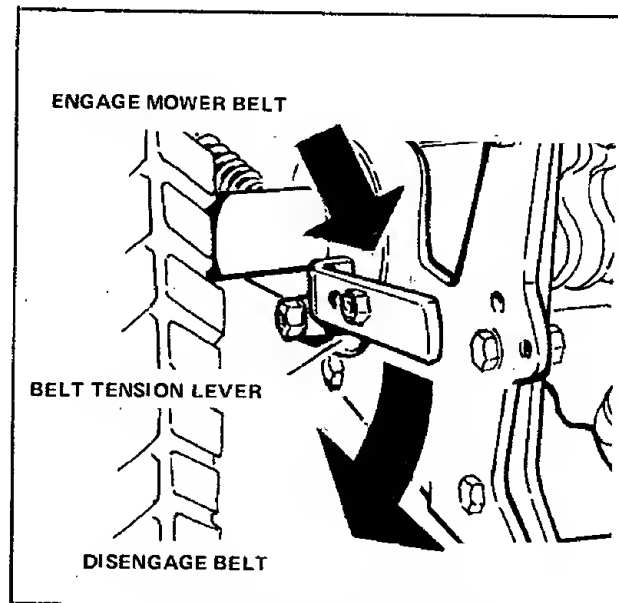

Figure 29. Disengaging Mower
3. Attach the flanged end of the roving nozzle to the blower housing, seating the flange fully in the notches. (See figure 29).
1. Before starting the tractor, disengage the mower belt tensioning lever on the left rear side of the tractor by pulling it all the way down. (See figure 29.)